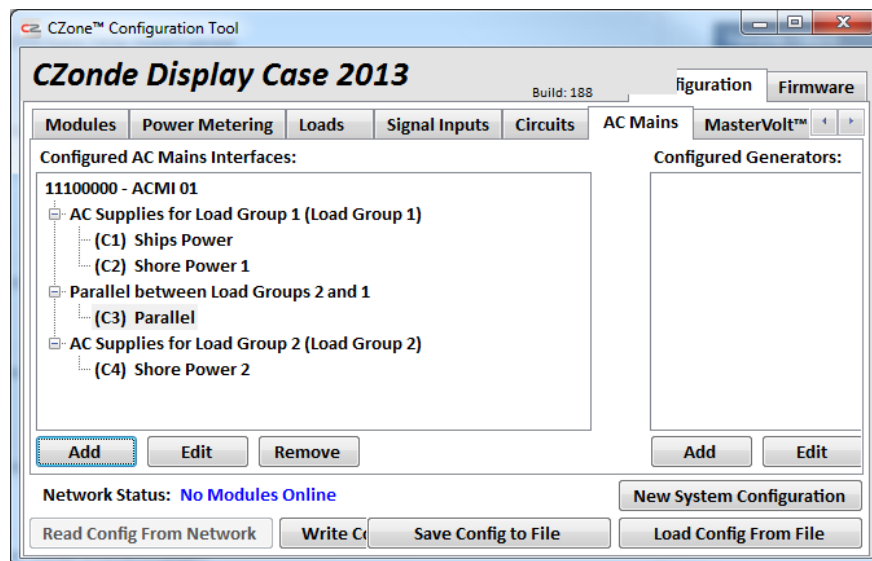

**Figure 7 Auto Changeover Enable Load**
**Important: An 'Auto-Changeover Enable' load is created for any inputs where a priority is set. For safety reasons, these loads must be turned on in a circuit before any automation will take effect. Refer to Figure 7 for an example of an 'Auto-Changeover Enable' load for Ships Power.**